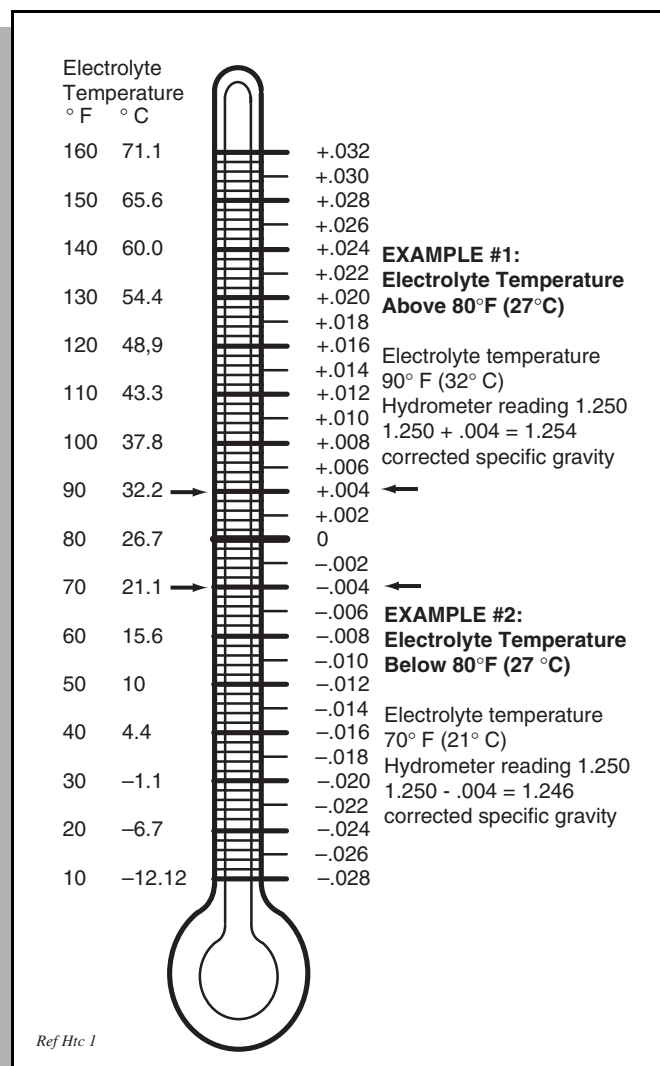

Fig. 35 Hydrometer Temperature Correction
4. Add or subtract four points (.004) to the reading for every 10° F (6°C) the electrolyte temperature is above or below 80° F (27° C). Adjust the reading to conform with the electrolyte temperature, e.g., if the reading indicates a specific gravity of 1.250 and the electrolyte temperature is 90° F (32° C), **add** four points (.004) to the 1.250 which gives a corrected reading of 1.254. Similarly if the temperature was 70° F (21° C), **subtract** four points (.004) from the 1.250 to give a corrected reading of 1.246 (Ref. Fig. 35 on page 26).